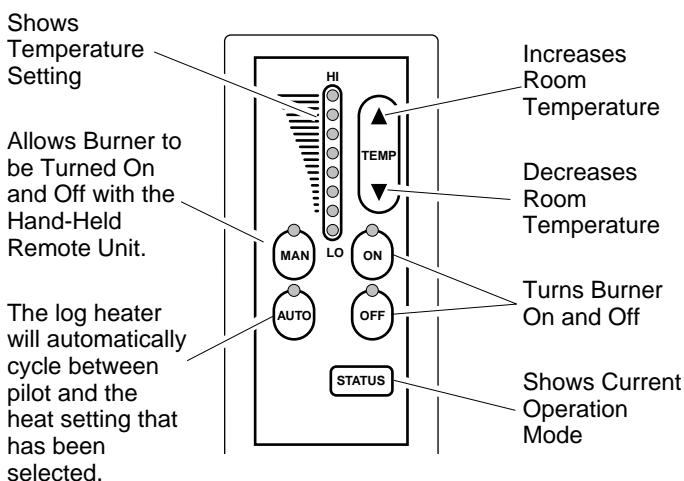

Figure 29 - Thermostat Hand-Held Remote Control Unit Selections (CGHRCT only)
- 2b. Select the MAN (manual) or AUTO button on the hand-held remote control unit (see Figure 29, page 17).
3. Use the STATUS button on the hand-held remote control unit to see the operation mode being used and the temperature setting selected. A red light will come on beside the operation mode being used when the status button is pressed (see Figure 29, page 17).
4. To turn the burner off when operating in the manual mode, press the OFF button. If operating in the auto mode, press the MAN button, then press the OFF button. The pilot will remain lit (see Figure 29, page 17). **IMPORTANT:** To turn the pilot off, manually turn the control knob on the heater to the OFF position.